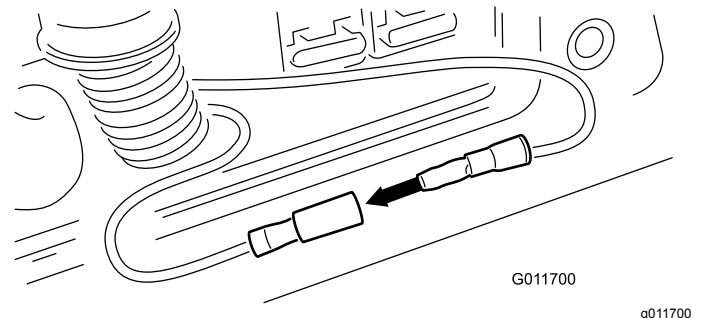

Figure 63
4. With the key in the Off position, remove the cap from jumper wires and plug the wires together (Figure 63).